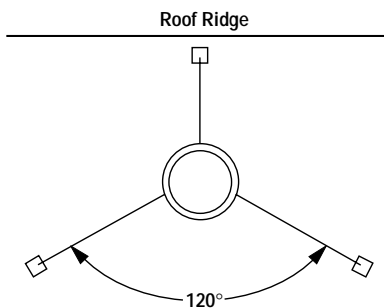

Figure 30
Note: If chimney extends more than 8' above roof surface, guy wires are also recommended. Use three (3) guy wires, attach to locking band assembly, extend and secure to roof in a triangular pattern (*Figure 30*). Guy wires are not supplied by the manufacturer.